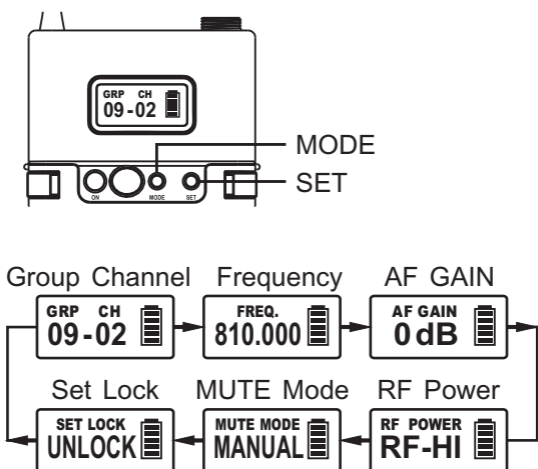

Fig. 5
1. Press MODE button **7** to move the cursor and access the following parameters in Fig. 5.
2. Press SET button **6** to activate parametrs for changing. Press SET button during blinking to change a parameter value, Fig. 5.